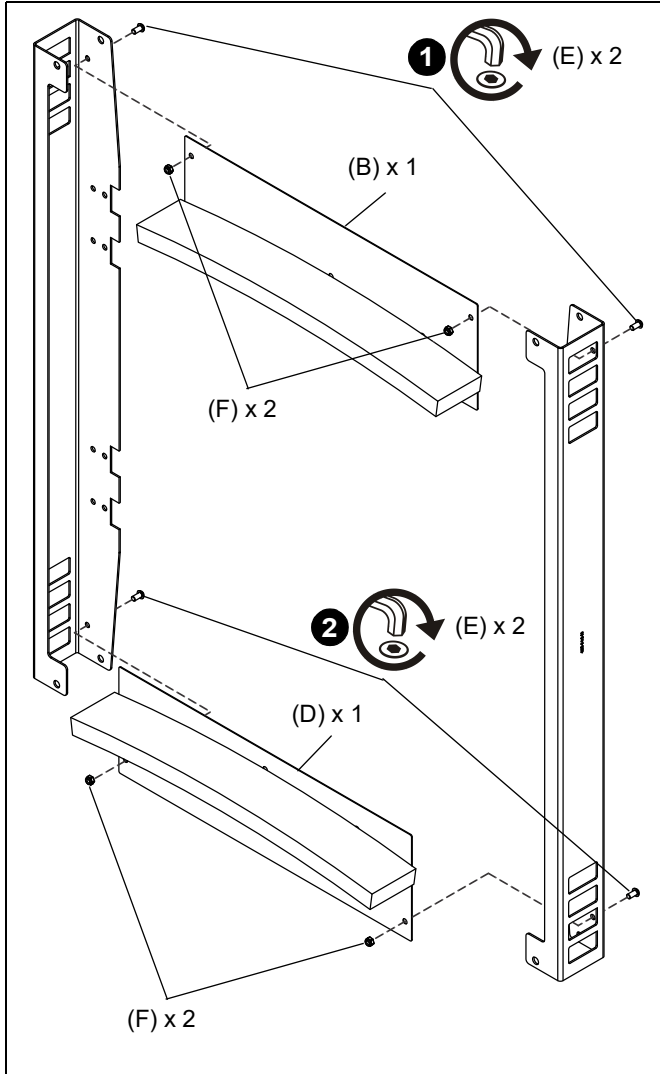

Figure 1
1. Use two M8 x 20mm button head cap screws (E) and M8 nuts (F) to secure two side plates (A) to top foam plate (B). (See Figure 1)
2. Use two M8 x 20mm button head cap screws (E) and M8 nuts (F) to secure two side plates (A) to bottom foam plate (D). (See Figure 1)